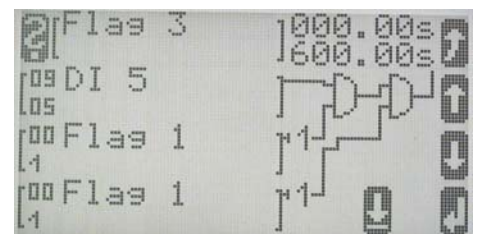

Figure 3-9
2. Remove the "0" for DI5 in flag 3 (configure logic manager->Flag 3 V1.0017; configure logic manager->internal flags->Flag 3 V1.0100) change the alarm class for DI5 (or any other DI that is configured here) to control. Flag 3 has a default OFF-delay time of 600s, this means a post-run of 10min after the DI is "0" again. (Figure 3-9) Any other requested time could be entered here.